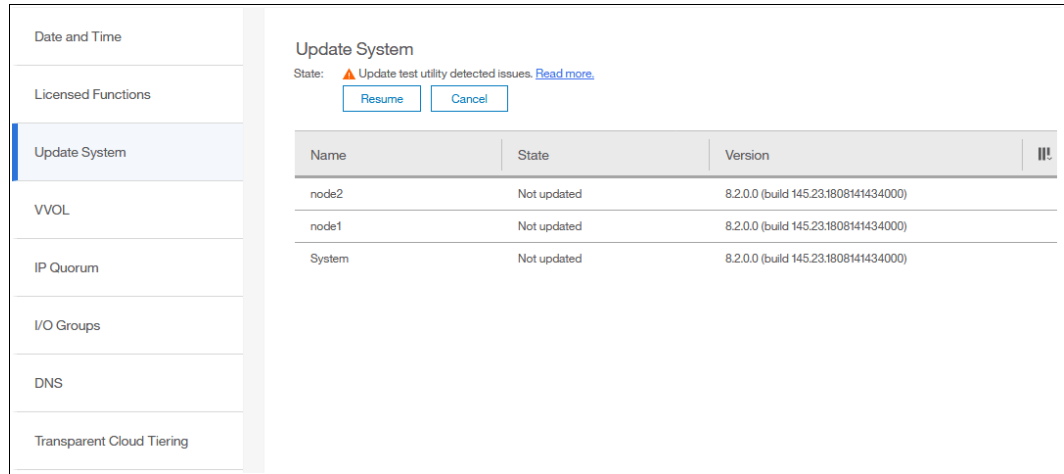

Figure 7-54 Resuming the update
11. Click **Resume** on the Update System window and the update proceeds as shown in Figure 7-54.